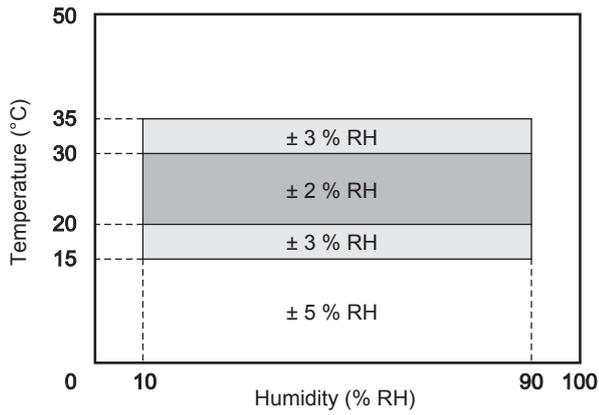

Figure 1. Indoor sensor, humidity accuracy
- \*4 For details of the accuracy for humidity and dew point, refer to Fig. 1–4.